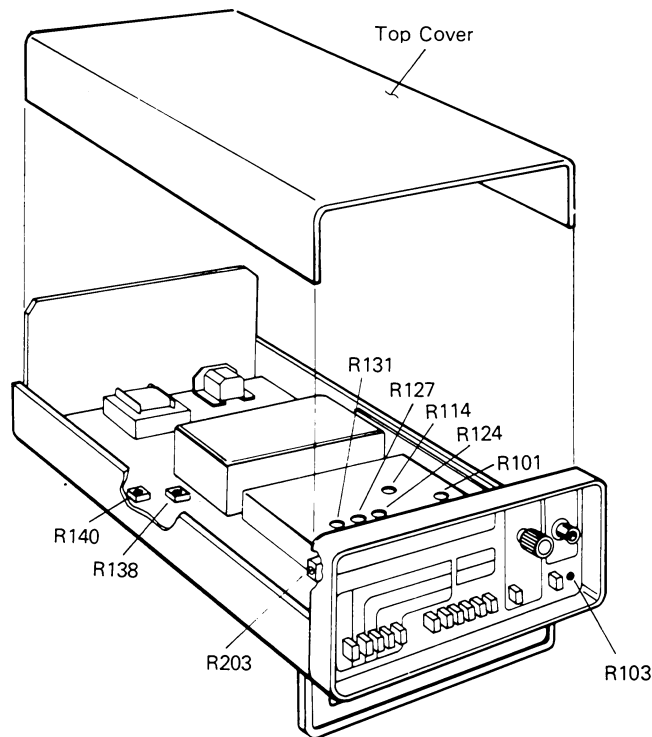

Figure 6-1. Top Cover Removal and Calibration Adjustment
2. Monitor the output of U109 with the 5½-digit DMM (Item B, Table 6-1). Refer to Figure 6-1.
4. Disconnect the line cord from AC power and connect the H-P 6227B (Item F) supply in place of the battery pack. Be sure the supply is off. Replace F101. (Refer to Figure 6-1.)